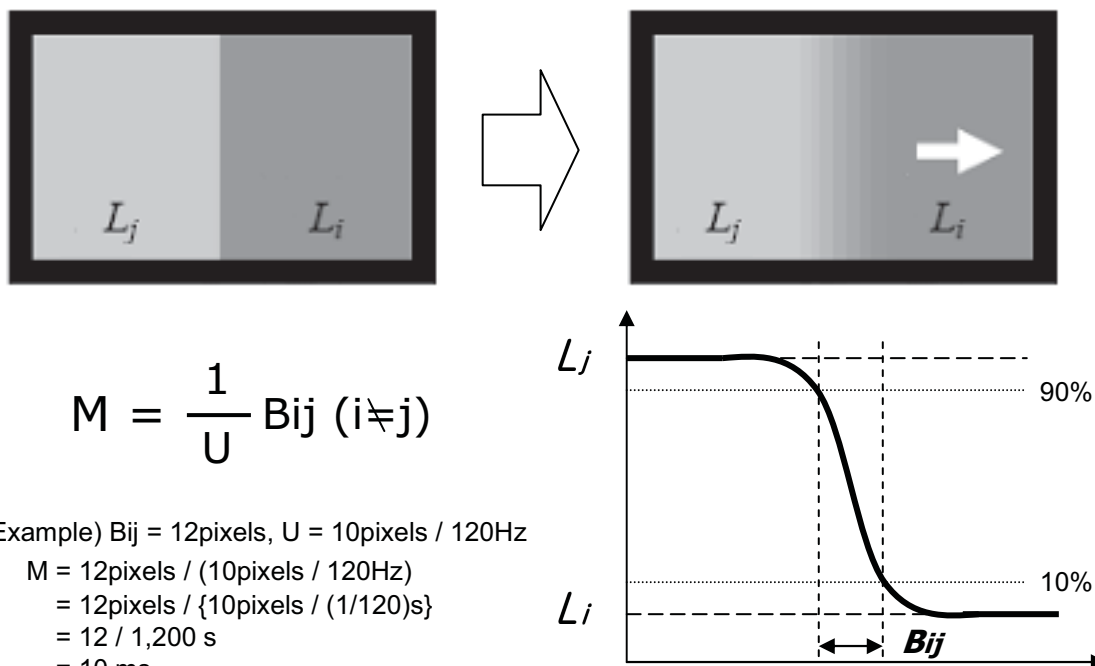

FIG. 11 MPRT
5. MPRT is defined as the 10% to 90% blur-edge width B_{ij} (pixels) and scroll speed U (pixels/frame)at the moving picture. For more information, see FIG.11.